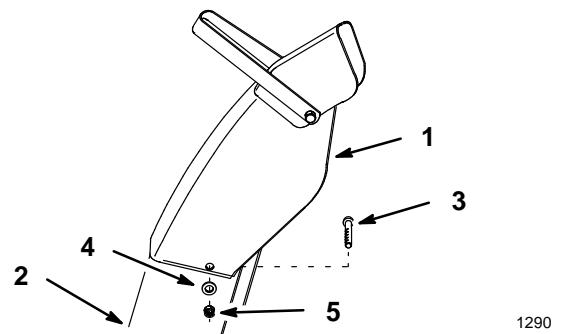

Figure 3
6. Assemble upper discharge chute section outside and on top of lower section (2) 5/16 x 5/8" with bolts (heads on inside), (2) 5/16" washers and (2) 5/16" locknuts (Fig. 3).